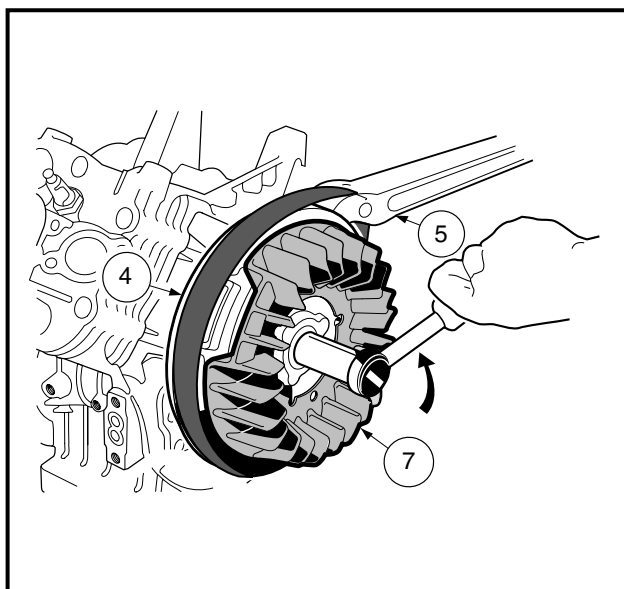

Figure 2-57 Flywheel Nut
3. Hold the flywheel (4), not the fan (7), with a strap wrench (5) and use a 22 mm socket to remove the flywheel nut (and flat washer) by turning it counterclockwise (**Figure 2-57, Page 2-28**). See following **CAUTION**.